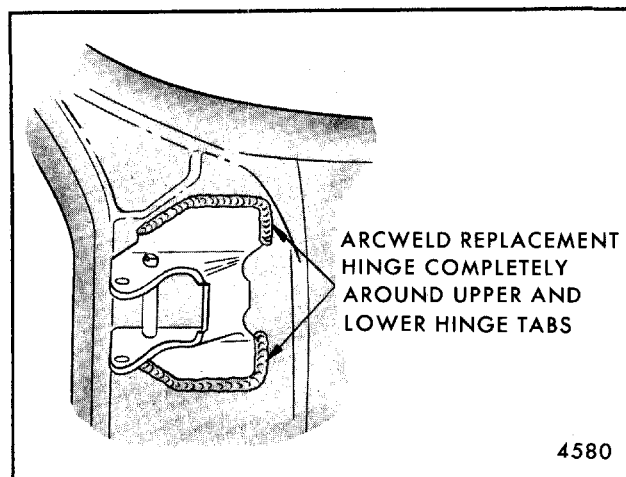

Fig. 5-99-Body Side Hinge Strap Installation - "X" Styles Shown, "H" Styles Similar
4. Remove door and complete arc welding of hinge. Arc weld completely around upper and lower hinge tab as shown in Figure 5-99.
9. Remove door and complete arc welding of hinge. Arc weld completely around upper and lower hinge tabs as shown in Figure 5-99.